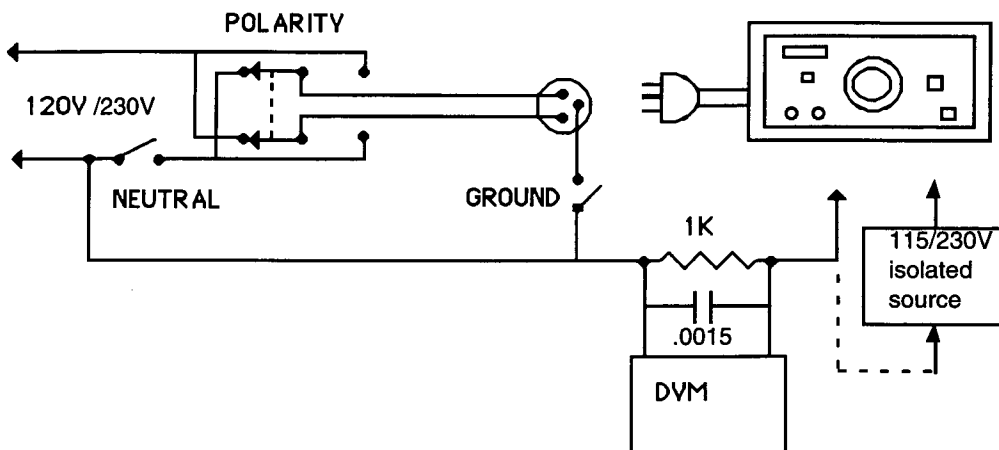

fig 2.1
- 2.4 Check AC leakage by using a commercial leakage tester or by using a testbox constructed so as to permit disconnecting ground, neutral and reversing AC polarity as in figure 2.1. Test leakage under any combination of the switch settings. All current readings should be less than the maximum reading in  $\mu$ amps RMS read according to chart below between any chassis or electrode point and the test box.